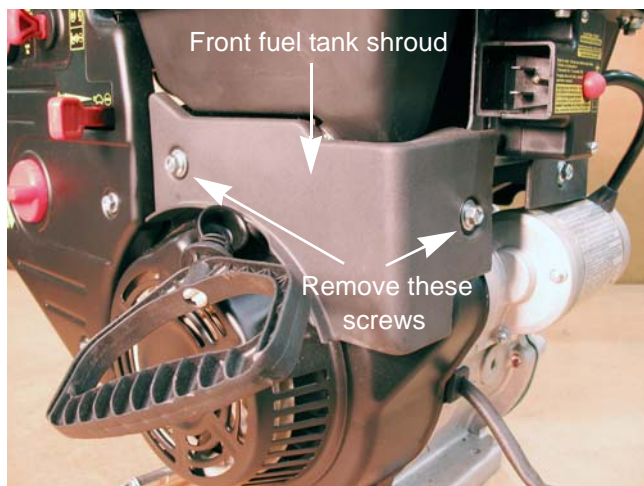

Figure 1.9
2. Remove the front fuel tank shroud using a 10 mm wrench. See Figure 1.9.